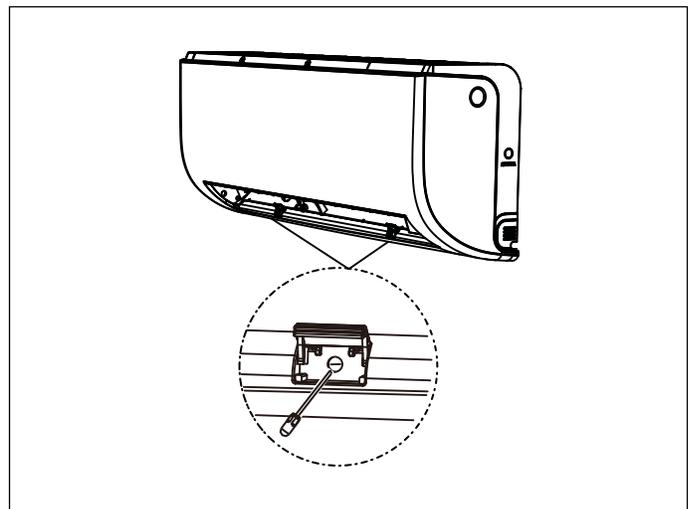

Figure 11
2. Open and fix the position of the panel. First, unscrew the two screws shown in the picture below (see Fig. 11).
2. Open the front panel of the indoor unit by loosening the screws according to the picture in Fig. 11. This will provide enough space to connect the wiring.